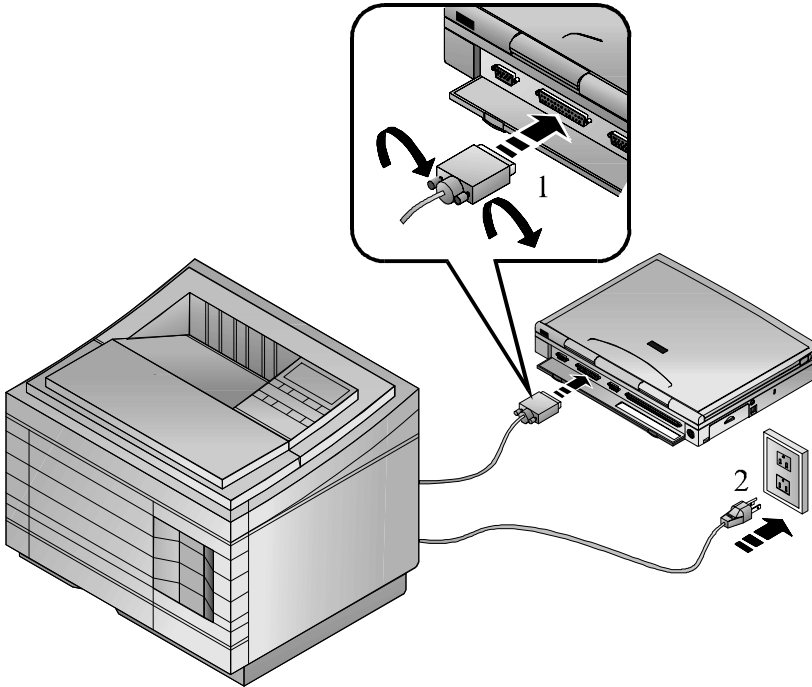

Figure 4-2: Connecting a Printer
1. Connect the printer signal cable to the parallel port on the rear of the notebook. Tighten the thumb screws (Figure 4-2, step 1).
2. Connect the printer's power cord to a wall outlet after ensuring the printer is turned off (Figure 4-2, step 2).